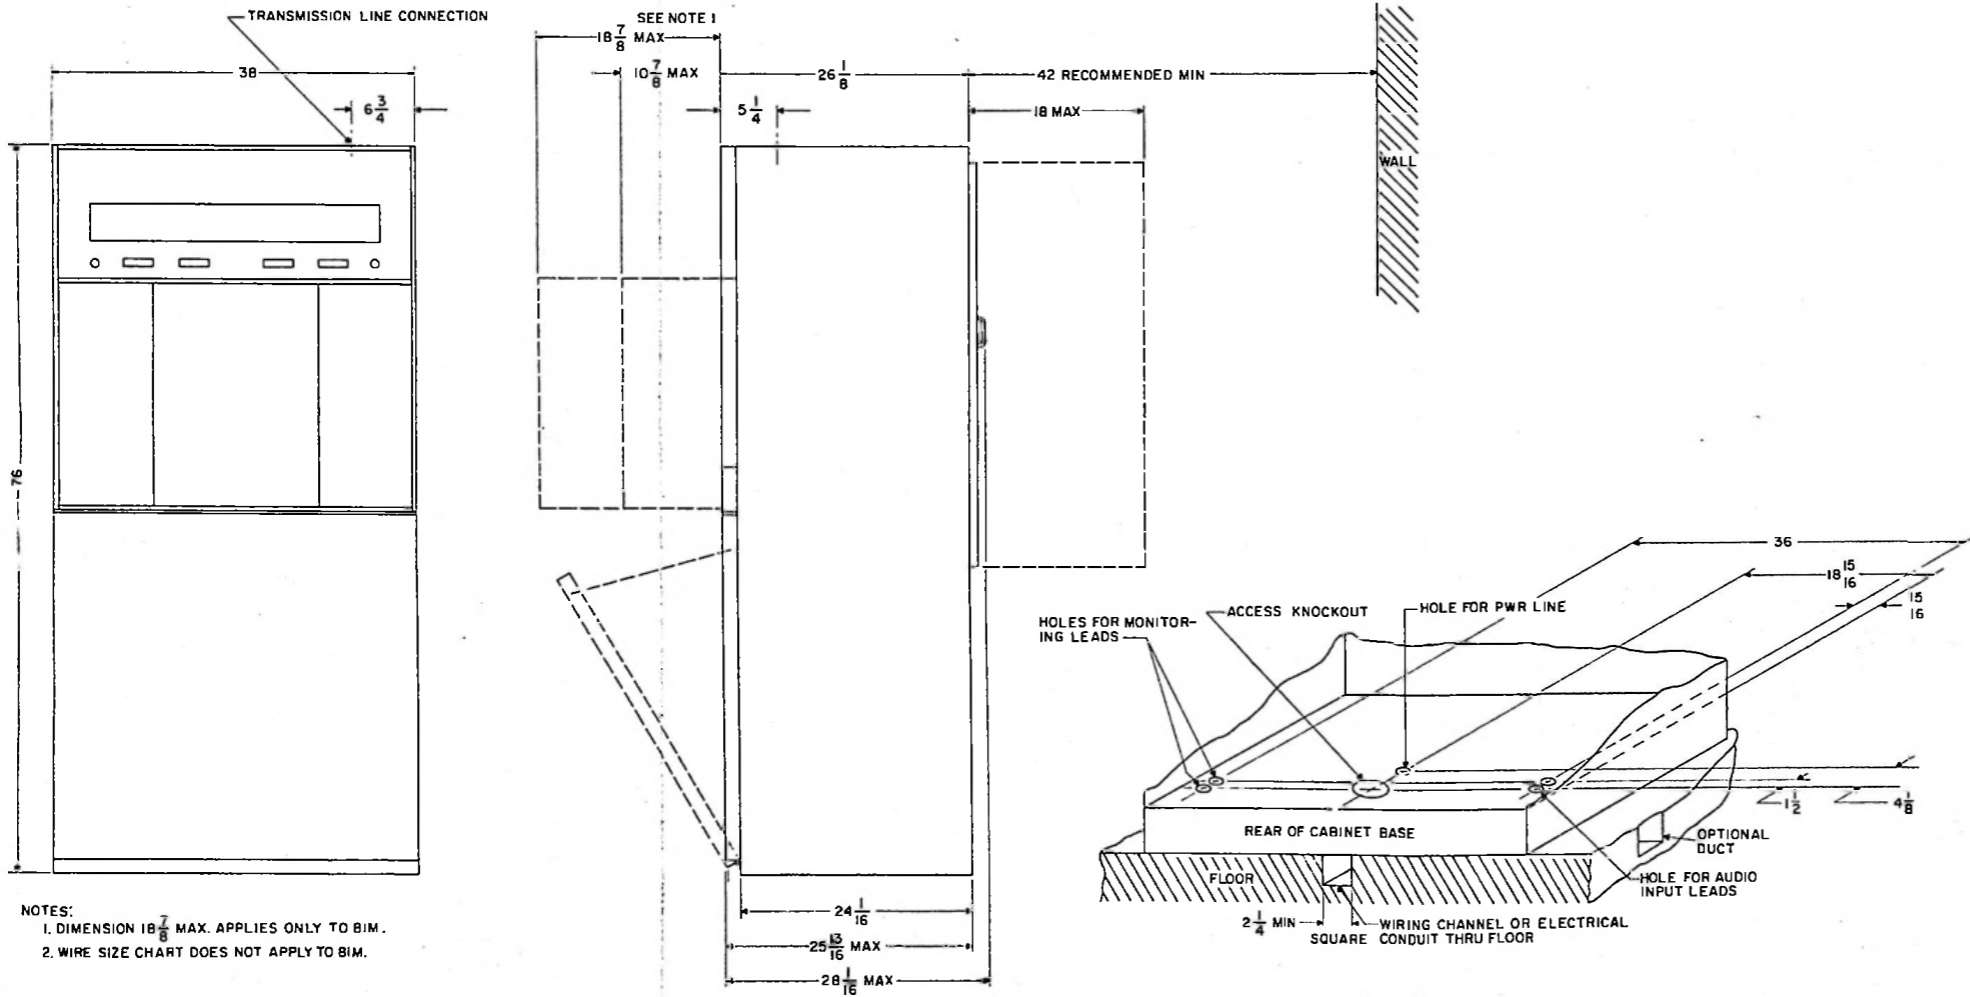

Figure 2-1. AM Broadcast Transmitter 20V-3,
Place the transmitter in its permanent location before replacing the units that were removed for shipping. Figure 2-1 shows arrangements that can be made before transmitter installation to accommodate power and audio inputs, and outputs for frequency, modulation, and audio monitoring. The external wiring requirements for these inputs and outputs may be met by laying a conduit in a concrete floor or by installing a wiring trench of sufficient size. Another alternative is to build a false floor under which the necessary wires and cables can be placed. The wiring trench must accommodate a three-wire power cable, two shielded twisted pairs, one RG-58/U coaxial cable, and one RG-8/U coaxial cable. The trench should also be large enough to contain several wires from the transmitter cabinet to the ground system of the building.
Refer to figure 2-1 for assistance in making the following external connections.
a. Connect the power input cables to the transmitter. Use the proper wire size given in figure 2-1. Bring the two power wires and the neutral wire in through the rubber grommet in the power line hole in the bottom of the cabinet and run them forward to the front panel. Connect the two power wires to the two outer terminals on terminal board TB100, shown in figure 6-3. Connect the neutral wire to the center terminal on TB100.
a. Again check all wiring and cable connections in the transmitter to be sure that each connection is electrically and mechanically firm. Refer to figure 2-1 for recommended wire sizes. Paragraph 2.6 gives instructions for interpreting the cabling diagram.